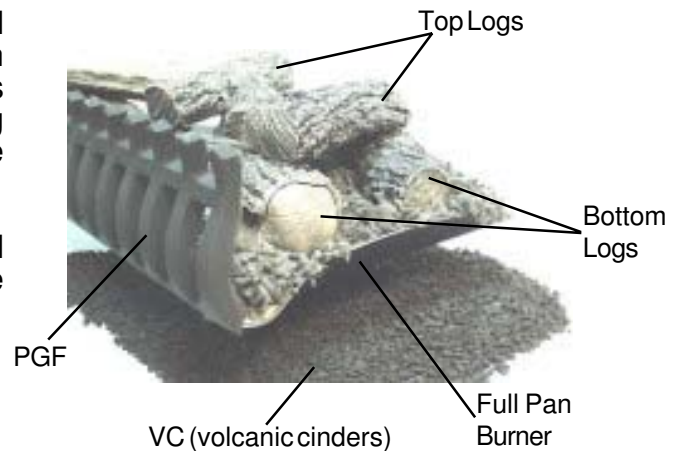

Figure 6
1. The two longest logs are the **bottom logs**. They should be placed directly on top of the ember bed. The bottom logs can either be positioned on their edge with the flat unfinished sides toward the middle of the pan, or with the flat unfinished side facing down in the vermiculite. Allow 2 to 3 inches of space between the bottom logs. (Fig. 6)
1. The black **volcanic cinders** are used to cover the fireplace floor, fittings and tubing around the burner system. Although not functional, the black cinders act as a picture frame to show off the glowing embers and yellow flame. (Fig. 6)